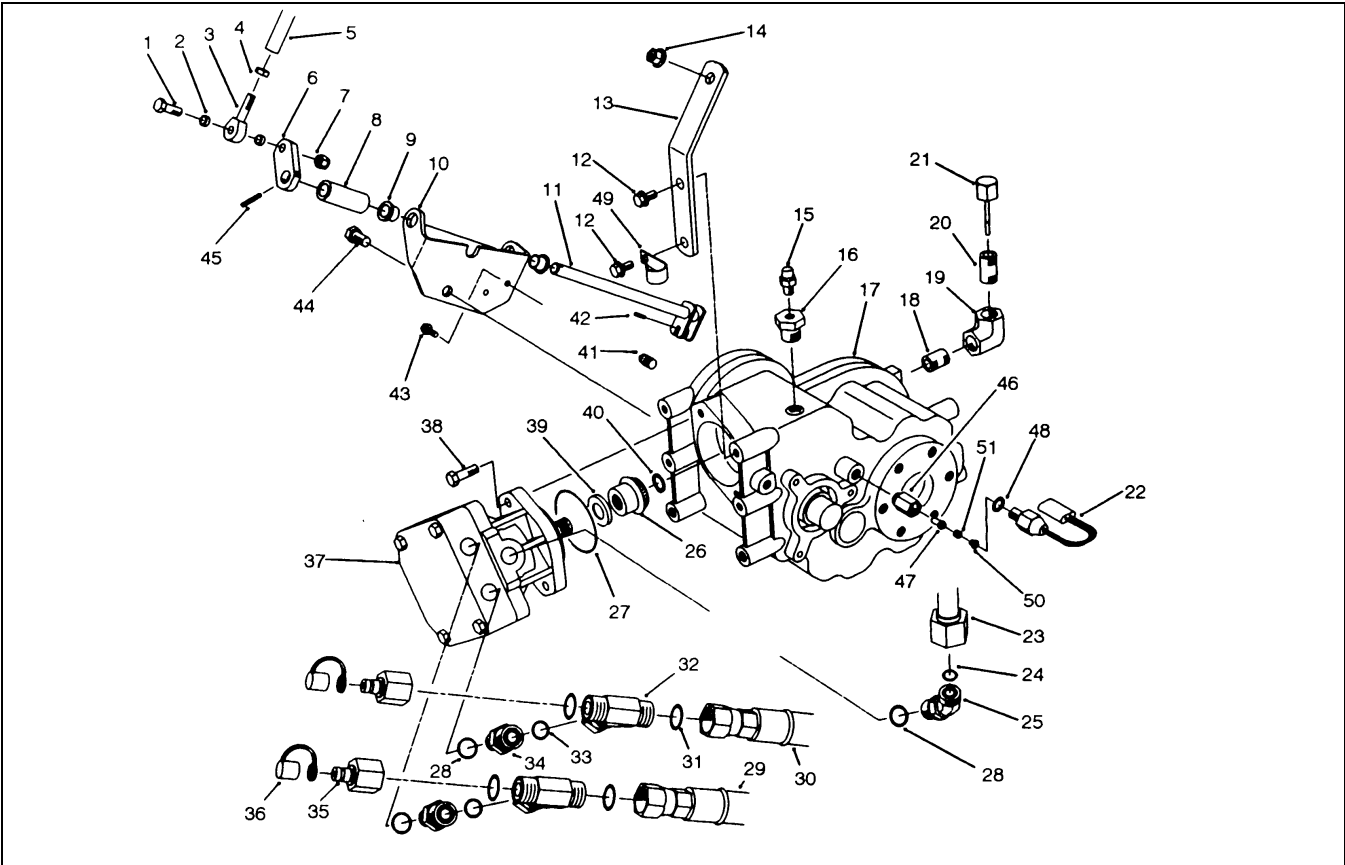

Figure 17
4. Remove roll pin (Fig. 17, Item 42). Remove cap-screws (Item 43, 44) securing shift rod support (Item 10) to transaxle. Remove hex flange head screws (Item 12) securing transaxle support bracket (Item 13) to transaxle.
6. Install hi/low interlock switch (Fig. 17, Item 17) into transaxle case if removed.